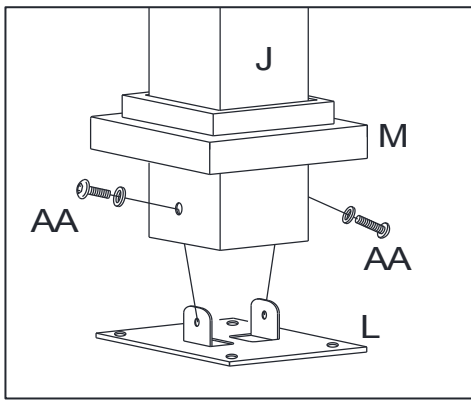

Fig.1
1. Insert the Base Cover (M) into Post (J), and then attach Post (J) to Base (L) with Bolt (AA). See Fig.1.